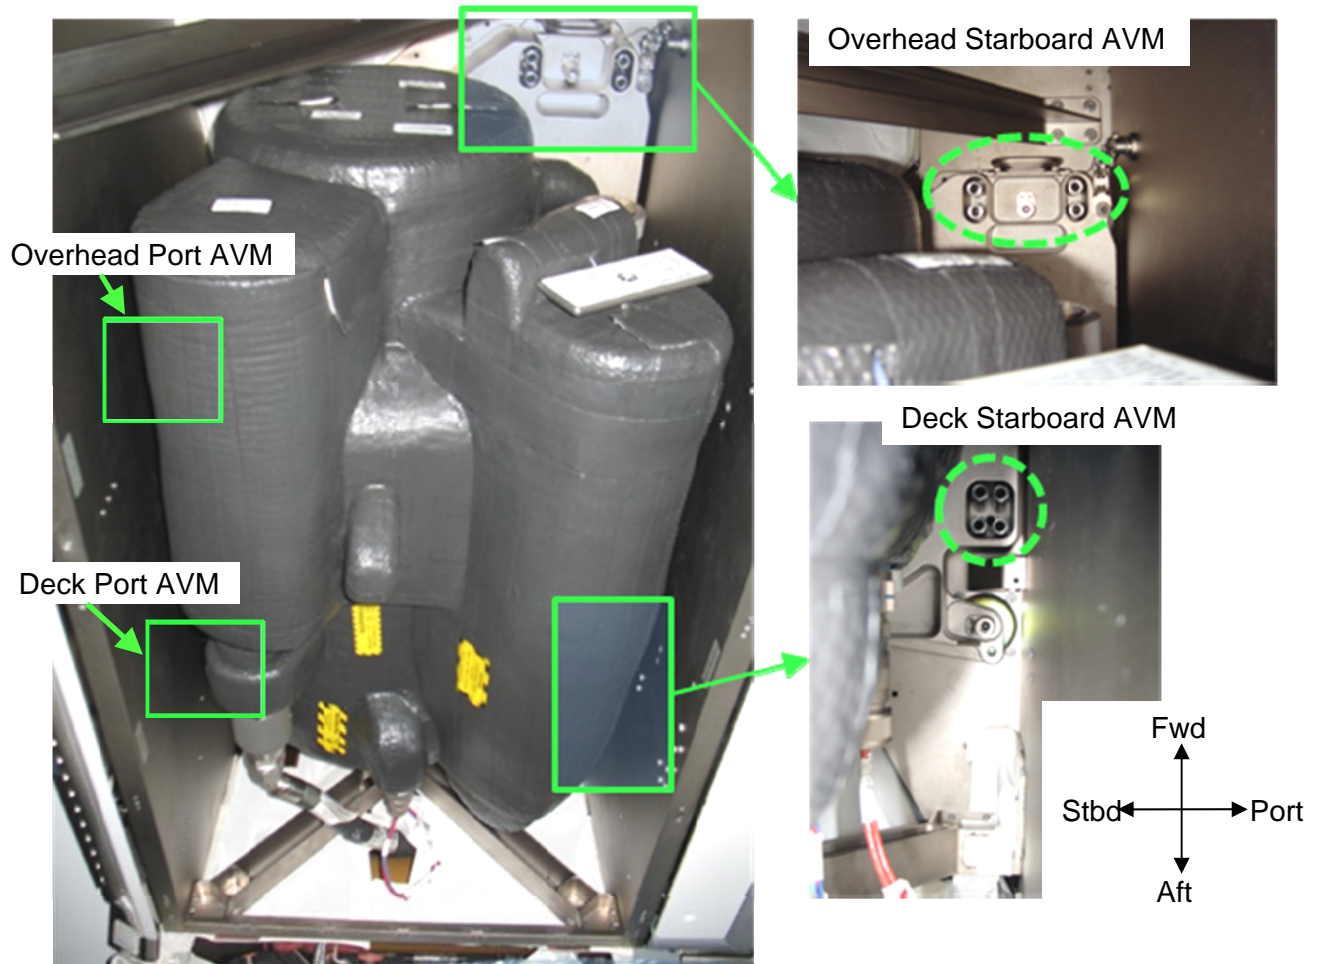

Figure 6.- AVM Blocking Devices and Launch Bolts.
- 3.1 Remove Fwd Starboard MTL PPA AVM Launch Bracket Launch Bolts (four) (Ratchet, 1/4" Drive; 10" Ext, 1/4" Drive; 6" Ext, 1/4" Drive; and 4" Ext, 1/4" Drive; 1/2" Socket, 1/4" Drive). Refer to Figure 6.
- 3.2 Remove Aft Starboard MTL PPA AVM Launch Bracket Launch Bolts (four) (Ratchet, 1/4" Drive; 10" Ext, 1/4" Drive; 6" Ext, 1/4" Drive; and 4" Ext, 1/4" Drive; 1/2" Socket, 1/4" Drive). Refer to Figure 6.
Refer to Figures 6, 7, and 8.